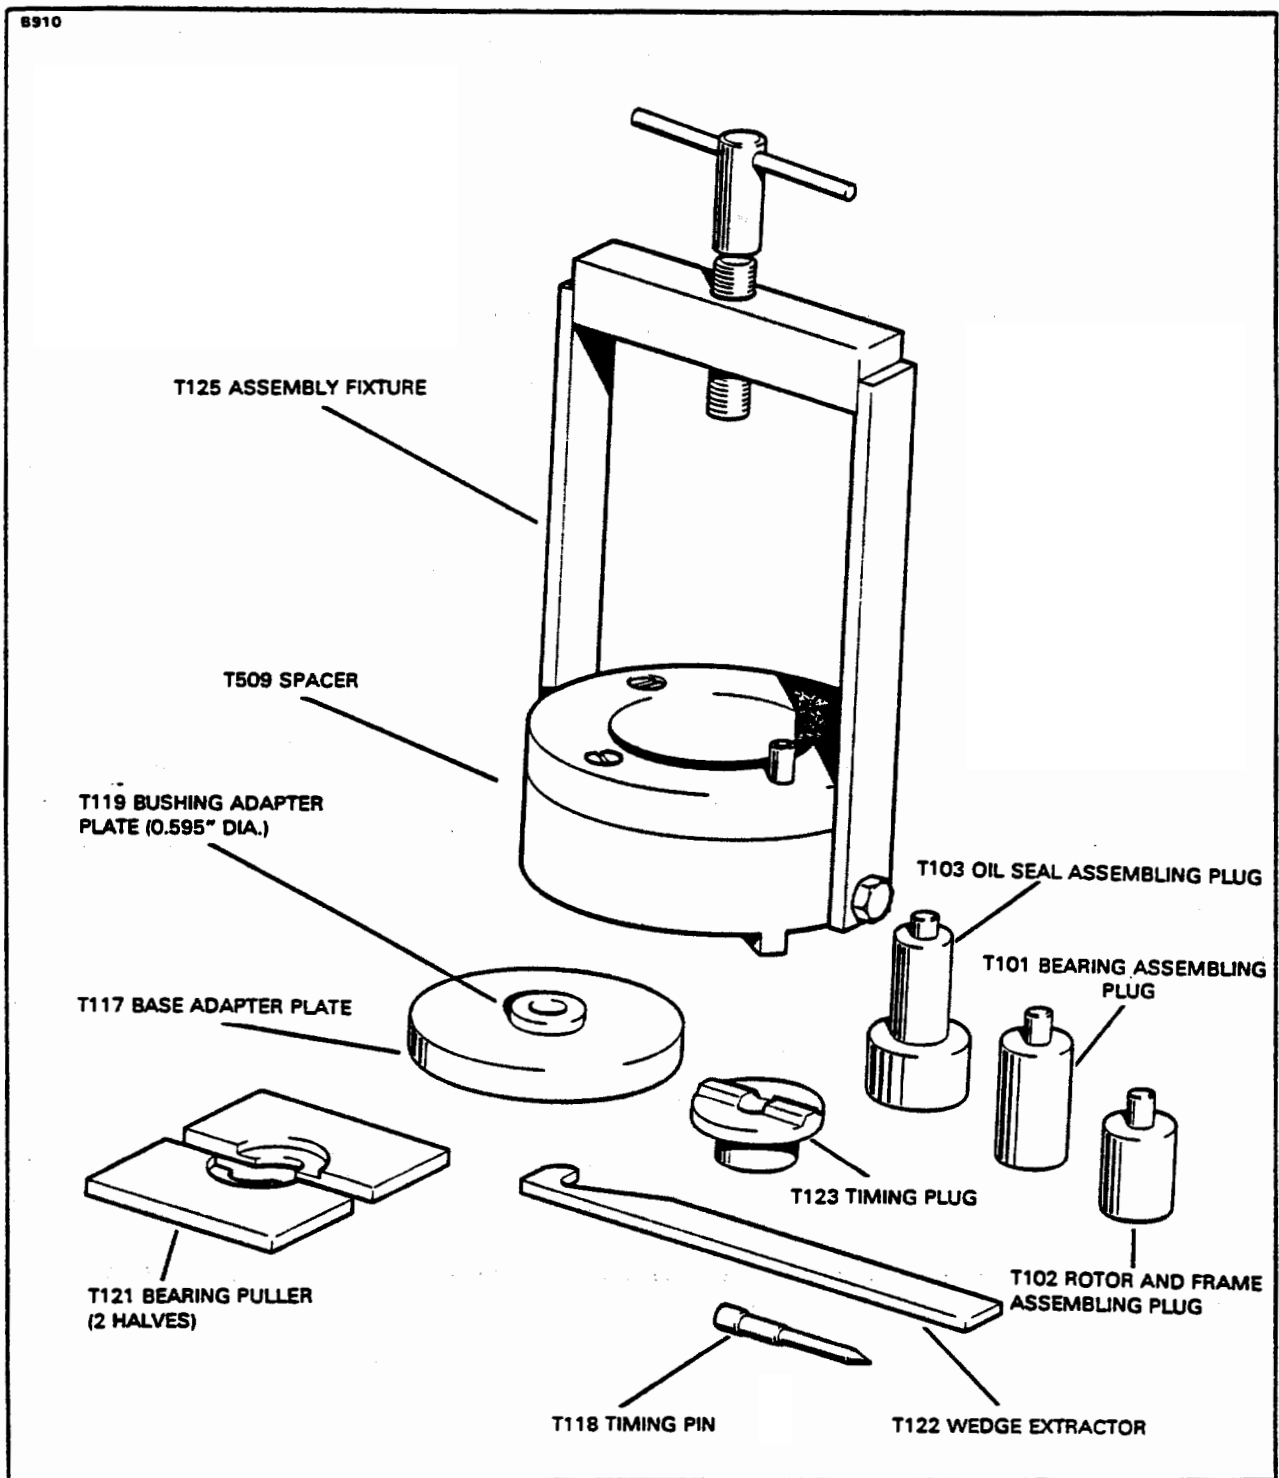

Figure 8-7. T-100 Assembly and Timing Tool Kit
Although not required, use of the slick T-100 assembly and timing kit is strongly recommended. (Refer to Figure 8-7.) The tools contained in this kit will greatly facilitate magneto disassembly/assembly and help prevent damage to parts.
- Insert the T-118 timing pin (refer to Figure 8-7) in the L or R hole in the distributor block (depending on rotation of the magneto).
b. Insert the T-118 timing pin (refer to Figure 8-7) in L or R hole in the distributor block. Turn rotor opposite the rotation of magneto until the pin engages the gear and install magneto and gasket on the mounting pad of the accessory housing and remove the timing pin. Tighten the bolts finger tight.